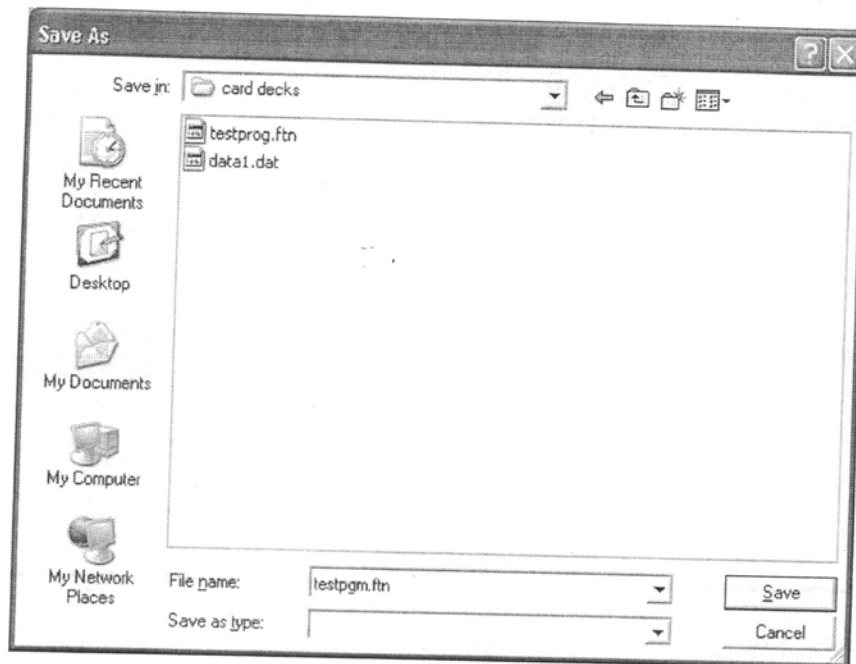

Figure 8. Select a folder and enter a filename in the "Save As" dialog.
5. Enter the name of the file you wish to create, using a full drive and path specification. You may find it easier to click Browse and use the standard Windows "Save As" dialog to select a folder. Be sure to enter the desired filename at the bottom of the Save As dialog, as shown in Figure 8. When you click Save, the full path to the selected file will be placed in the filename field in the CardRead window.